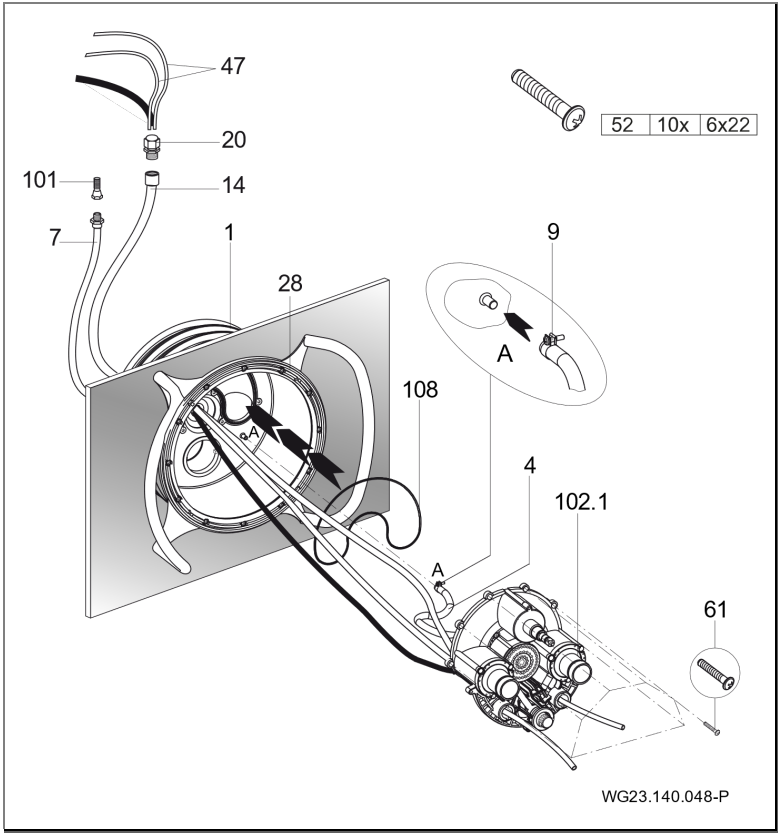

Fig. 17
2. Insert the O-ring (108) in the main housing (1). (Fig. 17)
3. Screw the ten enclosed tapping screws (61) into the nozzle housing. Place the pre-assembled nozzle housing (102.1) onto the main housing (1). (Fig. 17)
4. Feed the pneumatic hoses or cables of the Piezo buttons through the lower or outer openings of the nozzle housing (102.1); light ON/OFF left; pump ON/OFF right. (Fig. 17)
5. Feed the pneumatic hoses (47) or cables of the Piezo buttons and cables of the spotlight through the protective hose (14) and seal with the cable gland (20). (Fig. 17)
6. Fasten the internal air line (4), which is already completely pre-assembled at the nozzle housing (102.1) or air regulator, to the main housing (1) with the hose clamp (9). (Fig. 17)
7. Align the complete nozzle housing (102.1) to the main housing (1) and fasten the ten pre-assembled tapping screws (61). (Fig. 17)